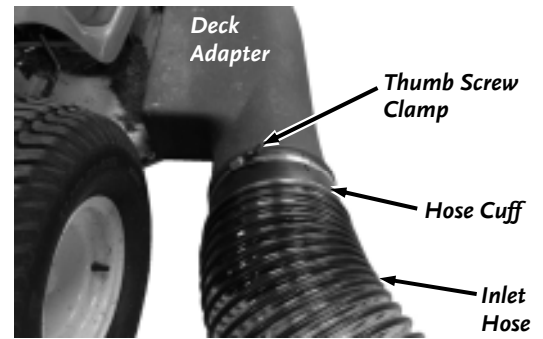

Figure 55
1. Connect the Inlet Hose to the Deck Adapter by sliding the Hose Cuff over the Hose Adapter (**Figure 55**).